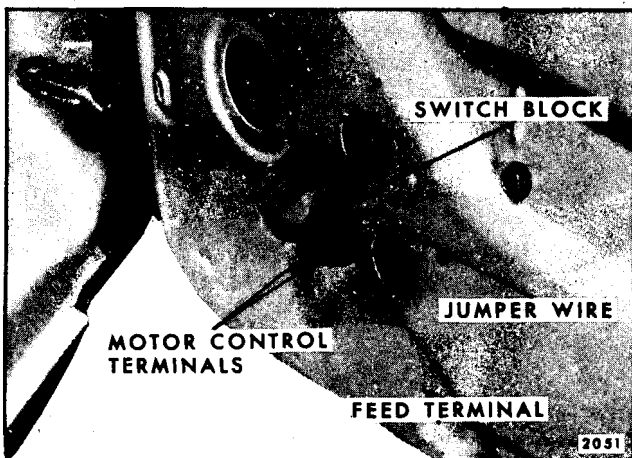

Fig. 15-8-Checking Window Control Switch
1. Insert one end of a No.12 gauge jumper wire to the switch feed terminal and the other end to one of the motor lead terminals in the switch block. Repeat this check on the remaining motor lead terminal (Fig. 15-8).
2. Insert one end of a No. 12 gauge jumper wire to the switch feed terminal and the other end to one of the motor lead terminals in the switch block (Fig. 15-8).
1. Insert one end of a No. 12 gauge jumper wire in the switch feed terminal and the other end in one of the motor lead terminals of the switch block (Fig. 15-8).